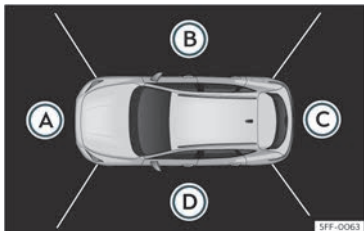

Fig. 182 Viewing the top view system: aerial view.
Function buttons Fig. 182:
»» Fig. 182. The aerial view can be selected by pressing the *vehicle* in the area.
Select the corresponding view by pressing the different areas »» Fig. 182 (A) to (D) of the aerial view or the reduced aerial view.